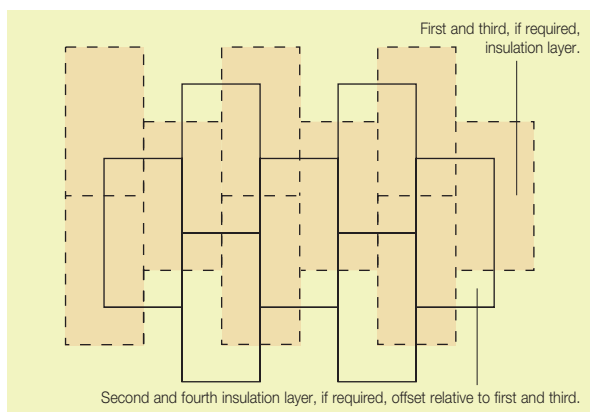

Figure 5 – Offsetting of Multiple Insulation Layers
- If two or more layers of insulation are required, they should be horizontally offset relative to each other so that, as far as possible, the board joints in any two adjacent layers do not coincide with each other (see Figure 5).